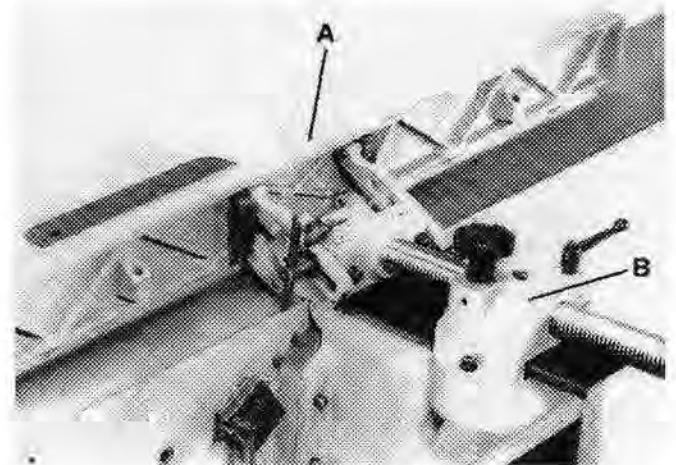

FIGURE 12
2. Fig. 12 illustrates the fence (A) properly mounted to carriage assembly (B).